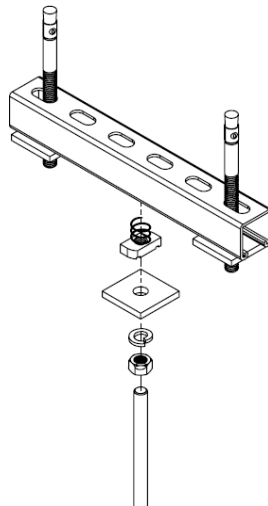

Figure 253: **Attach the Threaded Rod**
10. Attach the threaded rod to the 1 5/8" slotted (1/2") strut channel where the attachment point is to be located, using a hex nut, lock washer, square strut washer, and channel nut, as shown in Figure 253.